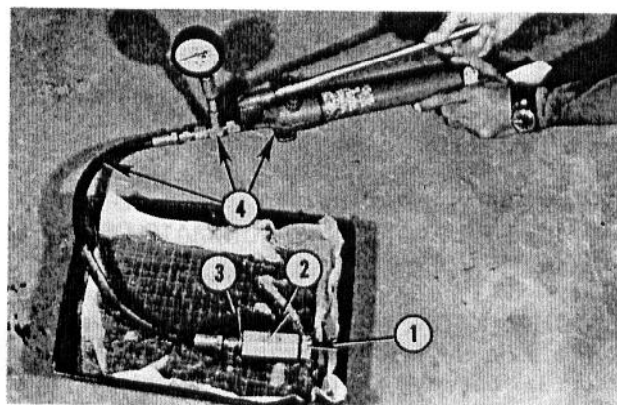

Fig. 7 — Checking Circuit Relief Opening Pressure with Hand Pump
c. These circuit reliefs may also be checked with MFN50-CSB (now 0072) test fitting, item No. 13 (fitting No. D1) from ND-112 test kit and a hand pump ... remove relief cartridge from rotary cylinder, install in test fitting and pressurize with a hand pump, see Fig. 7.
c. Remove circuit relief from valve "working" section (see Figs. 1 and 2) ... then install relief in test fitting 0072 (formerly MFN 50-CSB) and connect hand pump (with pressure gauge) to test fitting using item No. 13 (fitting No. D1) from ND-112 test kit, see Fig. 7. Use hand pump to pressurize circuit relief and record opening pressure indicated on gauge.